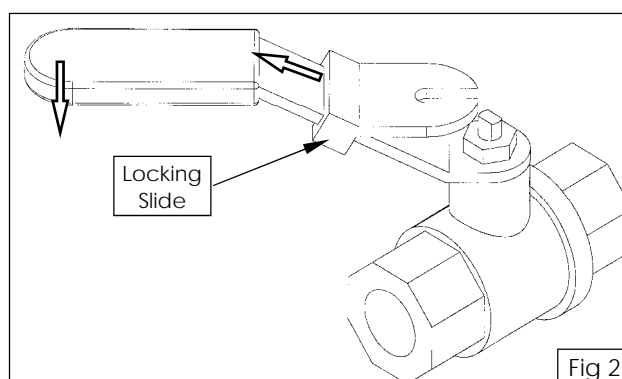

Fig 2
- b. While holding the locking slide in the withdrawn position, rotate the handle anti-clockwise (Fig 2) to open the valve.
- c. When the valve is closed, the locking slide will drop down over the locking valve to prevent accidental opening of the valve as shown in Fig 2.